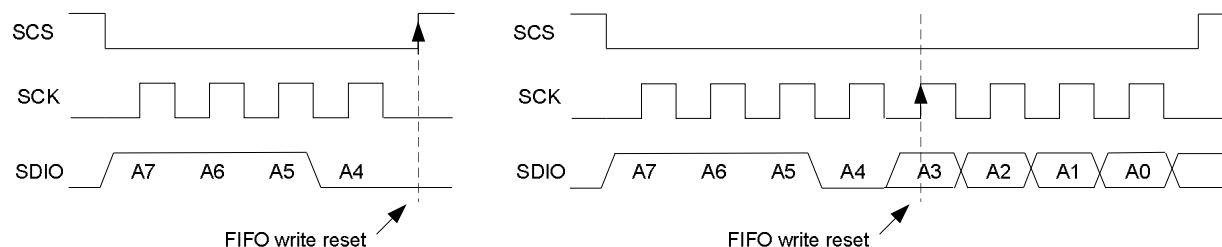

Figure 10.9 FIFO write pointer reset Command Timing Chart
- Step4: Send Strobe command of TX mode (Figure 10.9) to do TX delivery.